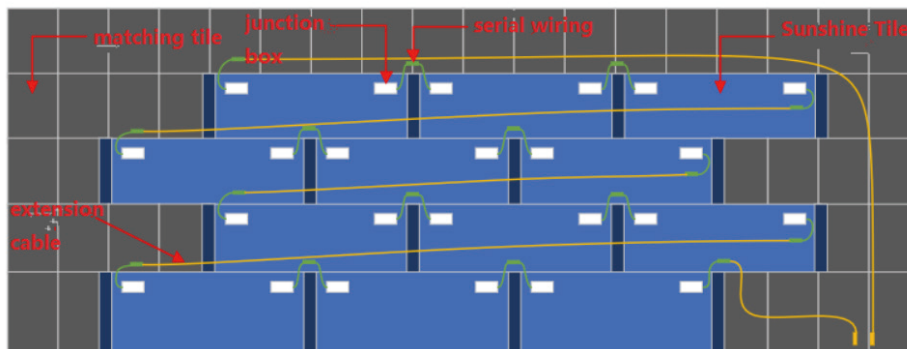

Figure 6-3 Operation instructions for connecting jumper cables to the same type of Sunshine MH product (back view of the roof).
- ① Wiring with clear, unambiguous and easily understood wire number identification.
- ② The jumper cable diameter must exceed the original Sunshine MH product cable diameter, and flame retardant and insulation performance should also be no less than that of the Sunshine MH product cable.
- ③ The Sunshine MH products should be connected in the shortest way possible. When encountering Sunshine MH products that need to be connected over long distances, the total length of each set of serial connecting cables should be minimized as much as possible to minimize any differences in length.
- ④ The wiring terminals should be in good contact. When connecting each part of the Sunshine MH product in series, it is best to test once each section is completed with a multi-meter to string connectivity.
- ① Wiring in accordance with the wiring in the electrical schematic.
- ② For products connected in series, the "+" pole of one product is connected to the "-" pole of another product. Extension cables are required if the connection of products between different rows is needed. Please use extension cables that are for solar applications specifically. Under normal circumstances, the second row can be installed and wired only after the following row has been installed and wired.
- ③ When installing Sunshine MH products of the same model, extension cables are required for cross-connections. Before moving on to the installation of the next row, one end of the extension cable should be connected and reserved, while the other end is led out to the position where the cross-connection is needed and left waiting for connection (as shown in Figure 6-3).